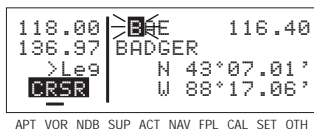

Figure 3-69
3. Change the first character to a "B" (figure 3-69).